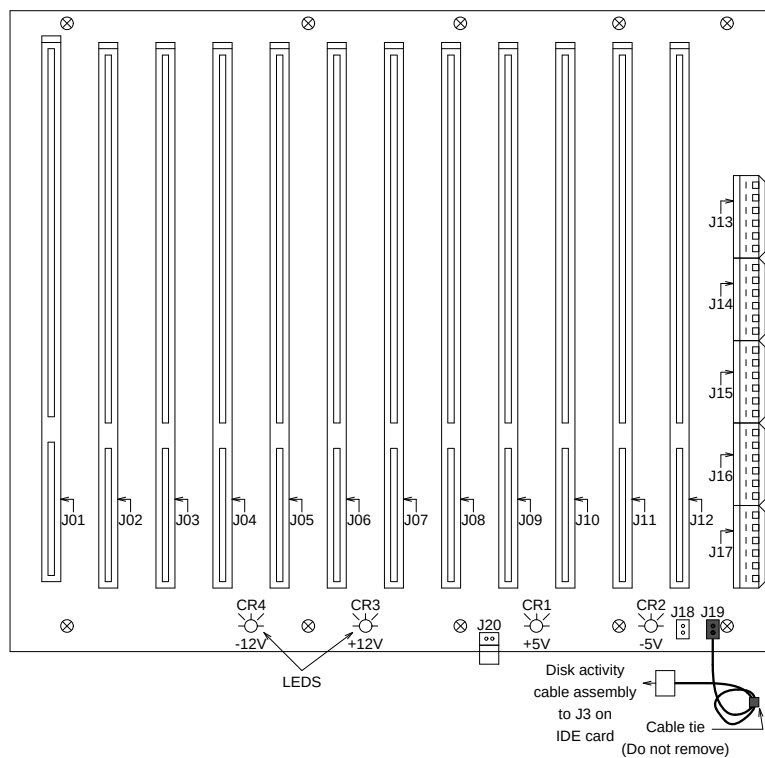

Figure C-20. MAP/40 12-Slot Backplane LED Indicators And Cabling
The following procedures detail removing and installing the 12-slot backplane (406900084), which all of the circuit cards and peripheral device connections are made to. The backplane is located in the bottom of the MAP/40 card cage area, as shown in Figure C-20.
12. Unplug the disk activity cable assembly (406899856) from J19 pin header on the backplane as shown in Figure C-2, Figure C-3, Figure C-14, and Figure C-20.
2. Visually inspect the backplane to verify that the J20 jumper shown in Figure C-20 is present. If this jumper is not provided, remove the jumper from the defective backplane and assemble to the replacement. Make a note on the trouble report and attach to the defective backplane.
10. Make a final, visual inspection to ensure that all cables and harnesses have been reconnected to their appropriate backplane and circuit card terminations. Figure C-2, Figure C-3, Figure C-14, and Figure C-20 should be used for reference during the connection of all cable assemblies.